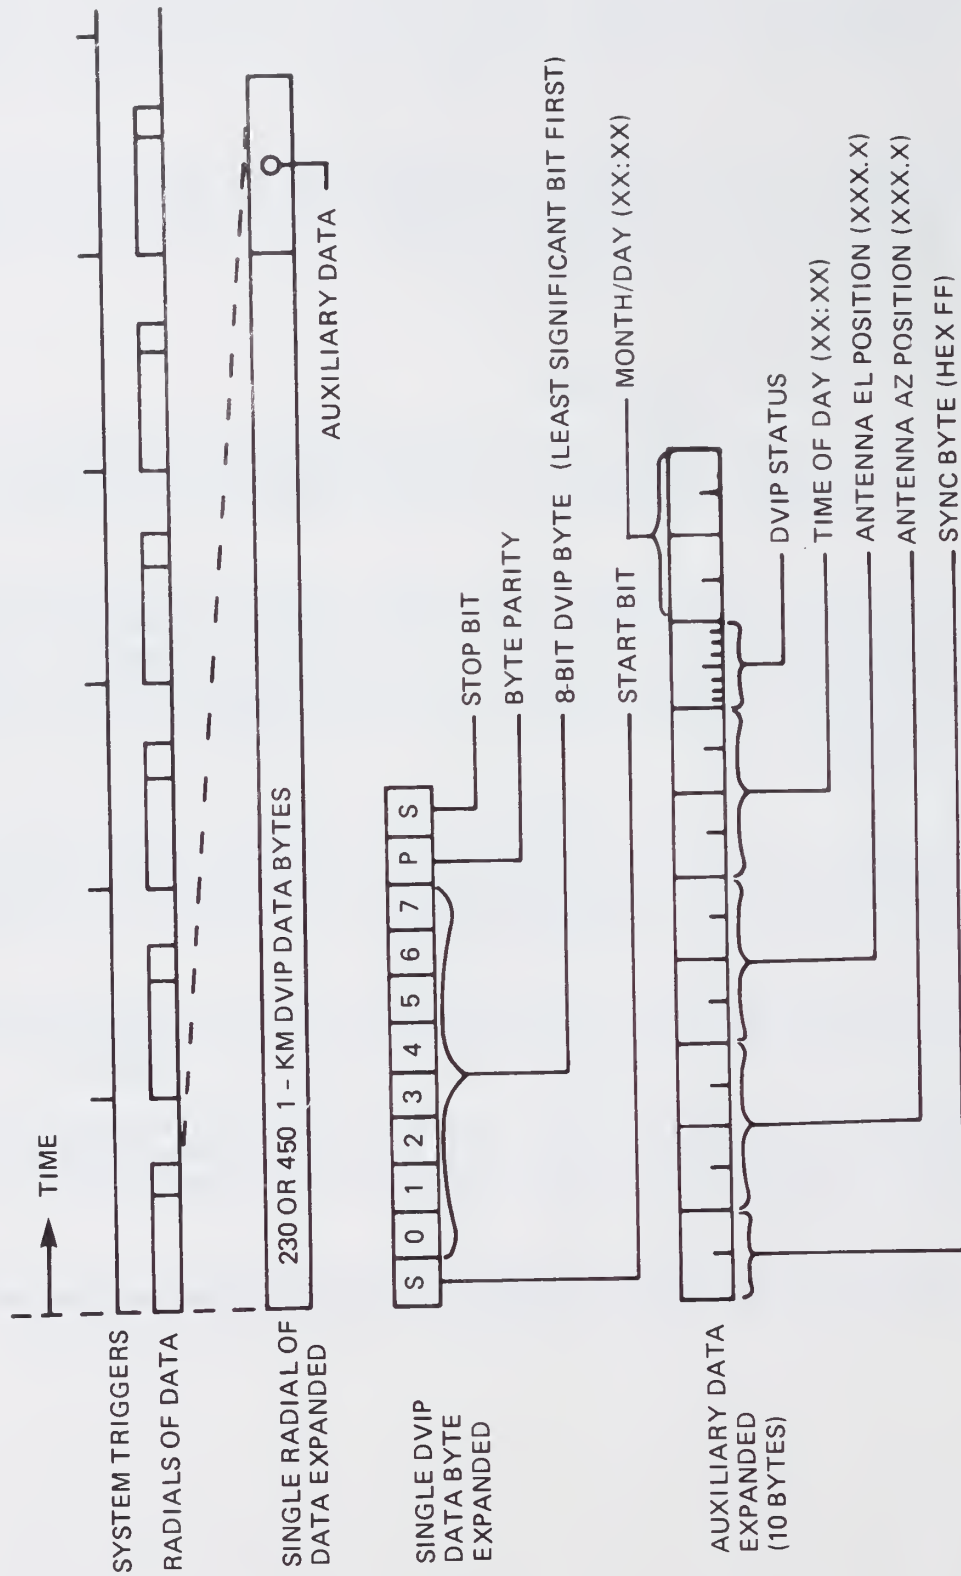

Figure 2-1. Serial Radar Data Format
**2.2 DATA FORMAT.** The IDE accepts 8-bit parallel, filtered radar data and status information from the Government furnished Digital Video Integrator and Processor (DVIP) and converts it into a bit-serial asynchronous format with one start, one stop, and one parity bit per 8-bit byte. For each radial of data, an auxiliary block of information containing the DVIP status, azimuth position, antenna position, time of day, and date will be transmitted as shown in figure 2-1.